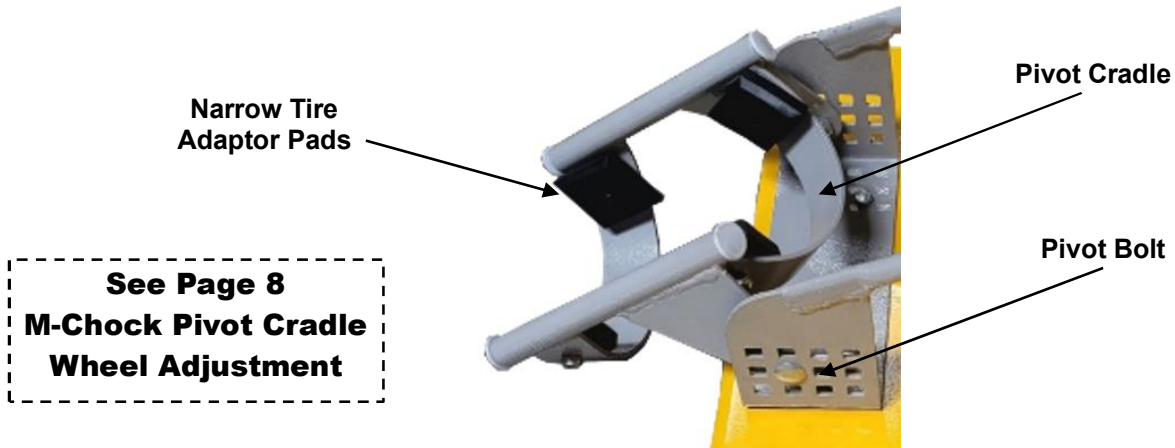

Fig. 1.
- 2) Connect the **Pivot Cradle** to **M-Chock Frame** with **2ea M10 x 25mm pivot bolts** and **2ea M10 nylon lock nuts**. Fig. 1. (**NOTE:** See Page 8 for M-Chock's Pivot Cradle Wheel Adjustment information)
(If Applicable) Apply **Narrow Tire Adaptor Pads** to inside of **Pivot Cradle** for Front Tire widths of 3.5+ or narrower. Install **Pads to Pivot Cradle** using **4ea M8 x 10mm Screws & M8 Nylon Lock Nuts**. Fig.1.